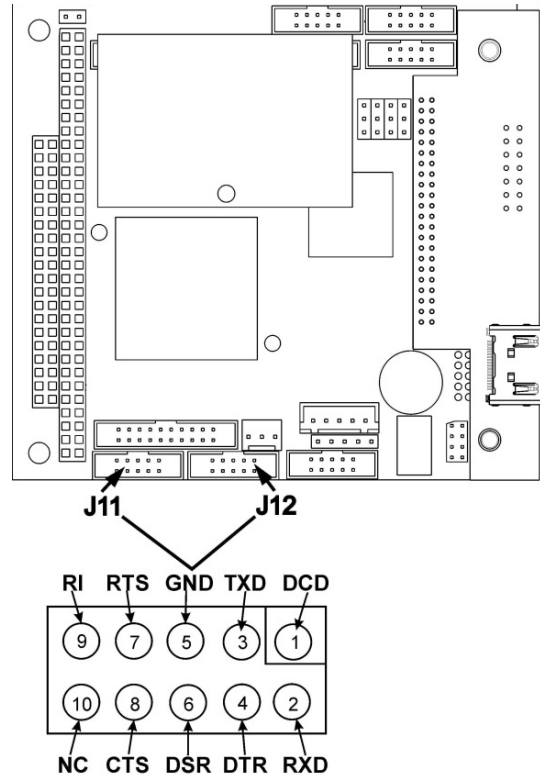

Figure 2-16. Default Pin Assignments for CPU COM Port Connector (RS-232)
The signals from these two connectors are routed from the motherboard via a wiring harness to two 10-pin connectors on the CPU card, J11 and J12 (Figure 2-16).
6. On the rear panel of each analyzer, adjust the DCE DTE switch so that the green and the red LEDs (RX and TX) of the COM1 connector (labeled RS232) are both lit. (Ensure you are using the correct RS-232 cables internally wired specifically for RS-232 communication; see Figure 2-16).